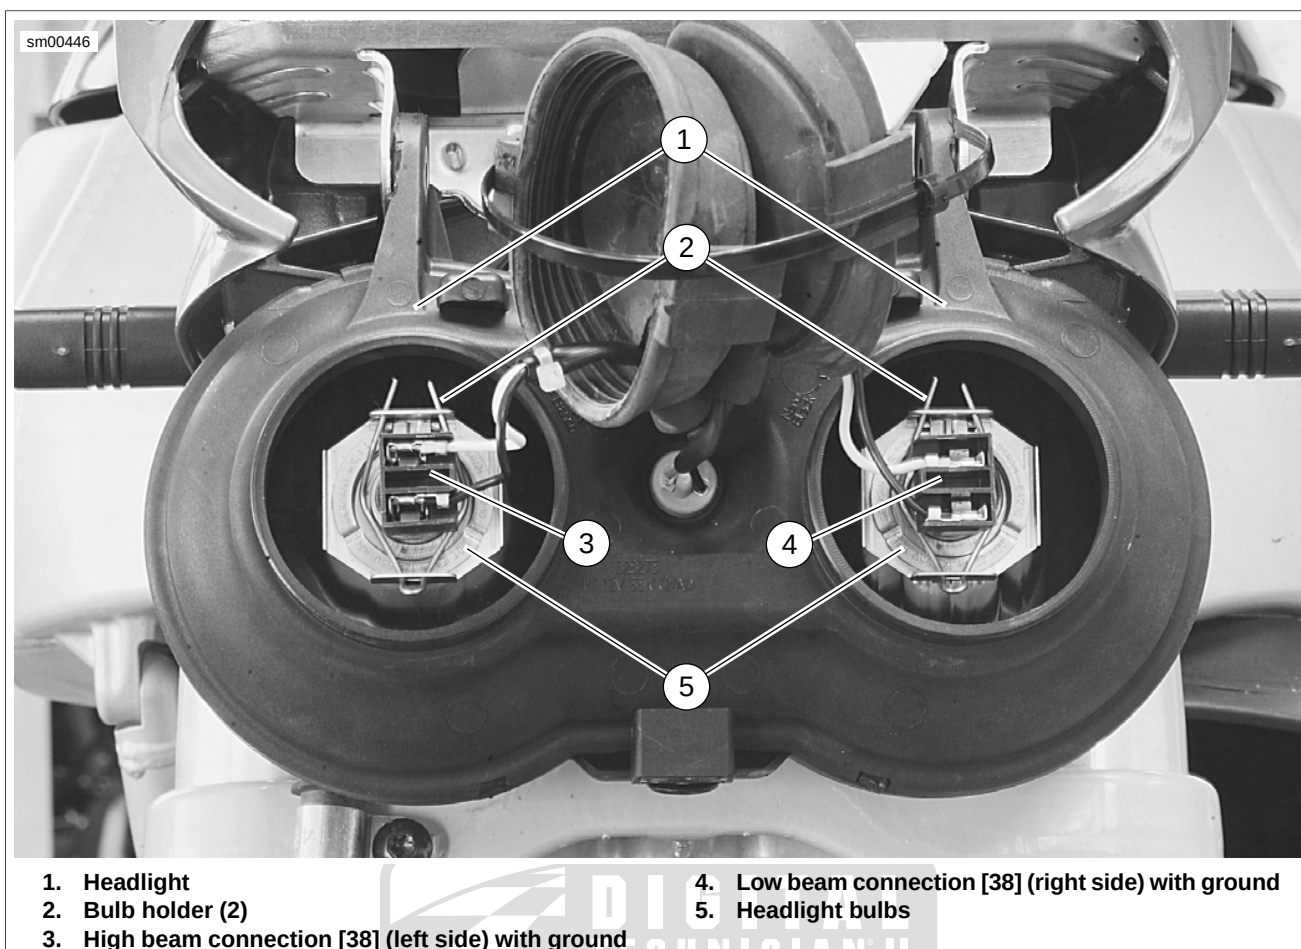

Figure 7-61. Headlight Assembly: Lightning/Ulysses (Rear View)
7. See Figure 7-61. Disconnect high beam connector (3) or low beam connector (4), or both.
8. Release bulb holder (2) from headlight housing clips.
1. See Figure 7-61. Align tabs on bulb (5) with tabs on headlight (1). Insert bulb.
2. Secure the bulb holder (2) to the headlight housing clips.
4. See Figure 7-61. Install rubber boot.
9. See Figure 7-61. Check headlight for proper operation. If operation fails, verify that all steps were performed properly.
- b. Check headlight LOW beam (3) and HIGH beam (2) settings.
- c. Set headlight to LOW beam. Press passing lamp switch (1). Headlight should flash HIGH beam for as long as the switch is pressed.